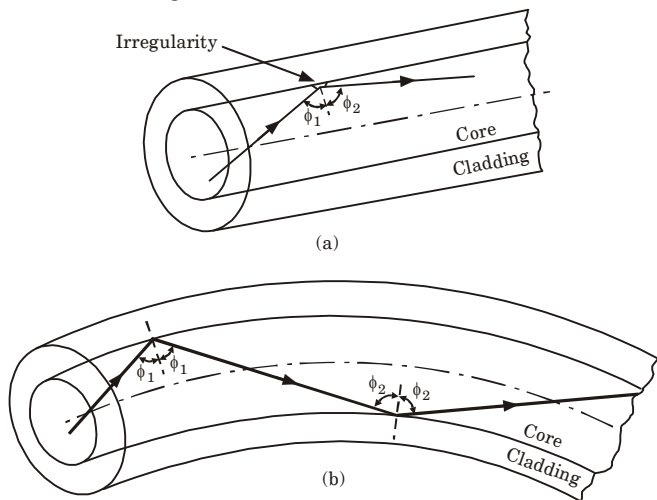

Fig. 1.19.1. (a) irregularity at the core-cladding interface; (b) fiber bend.
3. Ray theory aids the understanding of this phenomenon, as shown in Fig. 1.19.1, which illustrates two types of perturbation. It may be observed that in both cases the ray no longer maintains the same angle with the axis.